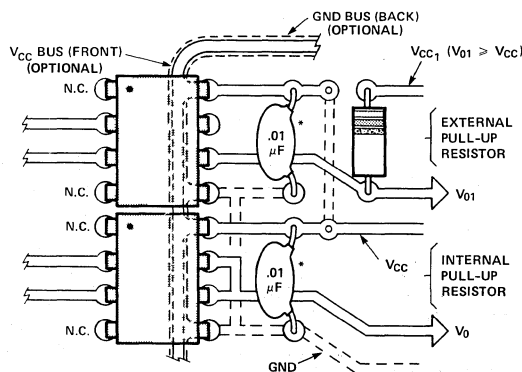

Figure 18. Recommended Printed Circuit Board Layout.
A recommended layout for use with an internal 1000 Ohms resistor or an external pull-up resistor and required  $V_{CC}$  bypass capacitor is given in Figure 18.  $V_{CC1}$  is used with an external pull-up resistor for output voltage levels ( $V_O$ ) greater than or equal to 5 V. As illustrated in Figure 18, an optional  $V_{CC}$  and GND trace can be located between the input and the output leads of the HCPL-2300 to provide additional noise immunity at the compromise of insulation capability (VI-0).
1. Bypassing of the power supply line is required with a  $0.01 \mu\text{F}$  ceramic disc capacitor adjacent to each optocoupler as illustrated in Figure 18. The power supply bus for the optocoupler(s) should be separate from the bus for any active loads, otherwise a larger value of bypass capacitor (up to  $0.1 \mu\text{F}$ ) may be needed to suppress regenerative feedback via the power supply.